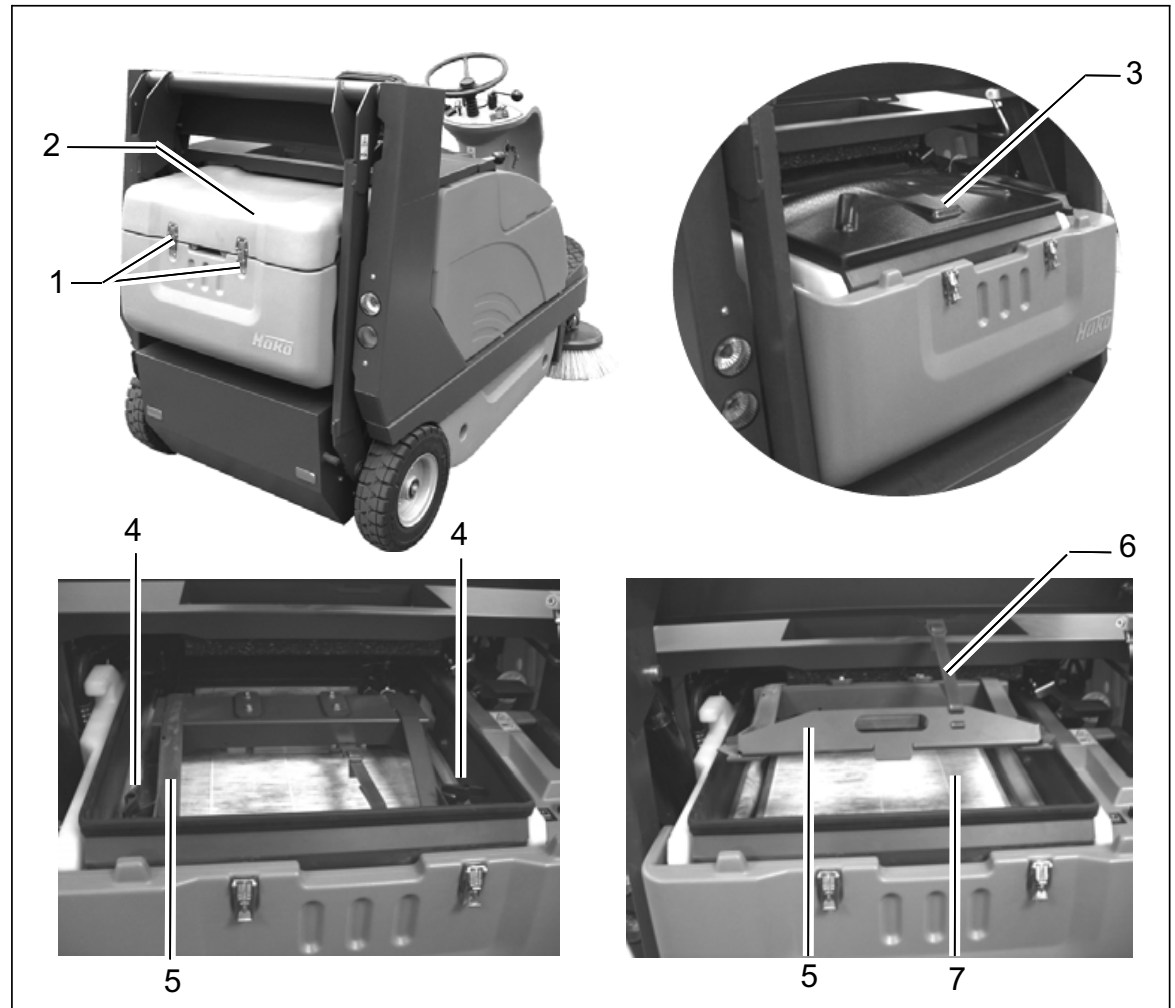

Fig.18
- Open quick-release locks (Fig. 18/1) and remove cover (Fig. 18/2).
- Remove cover (Fig. 18/3) of the filter installation.
- Loosen wing screws, four peaces, (Fig. 18/4) and remove.
- Fold back frame (Fig. 18/5) and hook frame (Fig. 18/5) at indicated position by rubber fastening (Fig. 18/6).
- Remove plate filter (Fig. 18/7).